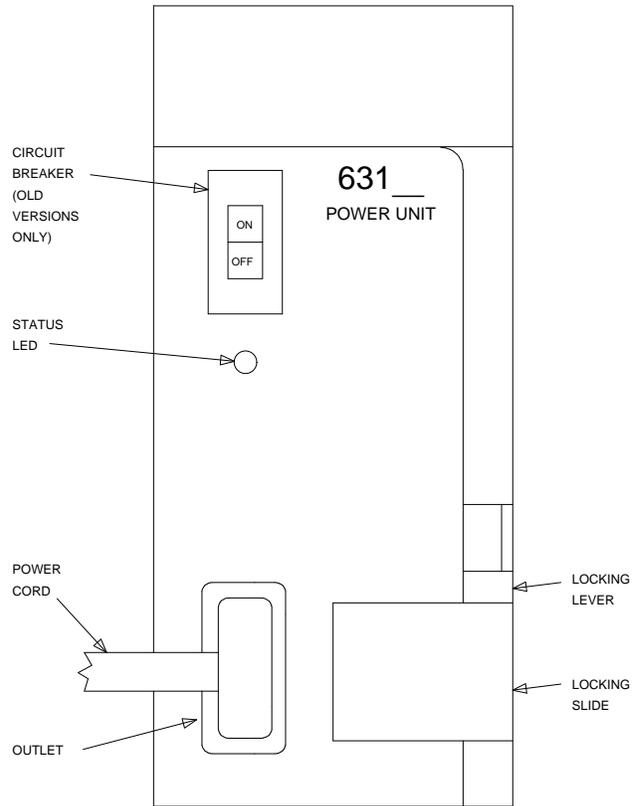

Figure 3-29. 631-Type Power Unit
17. Connect the power cords to the power units. The power cords are the white cables equipped with plugs that are run through the slots in the front of each carrier (see Figure 3-29).